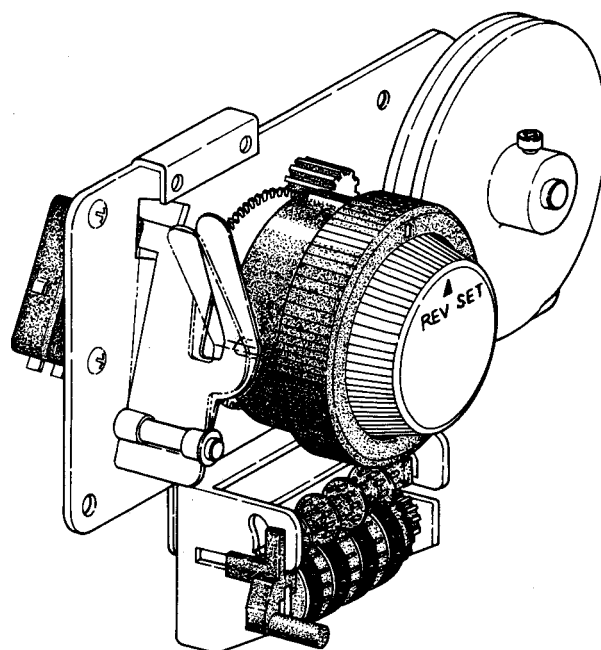

Fig. 8
Relay operation can be clearly understood by referring to the System Control Board Block Diagram (Figure 8.). As soon as REVERSE is actuated ("ON") at point (A), current begins to flow in the Reverse Circuit. Since it takes about 15 milliseconds before the contact is operative, C1 (220  $\mu$ F) is charged within approximately 5 milliseconds through REV1-2 (normally closed contact).